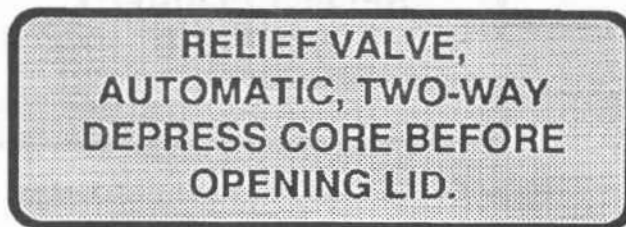

Figure 1-3. Case instruction decal.
- (b) Instructions for operation of the air relief (breather) valve are provided in figure 1-3.